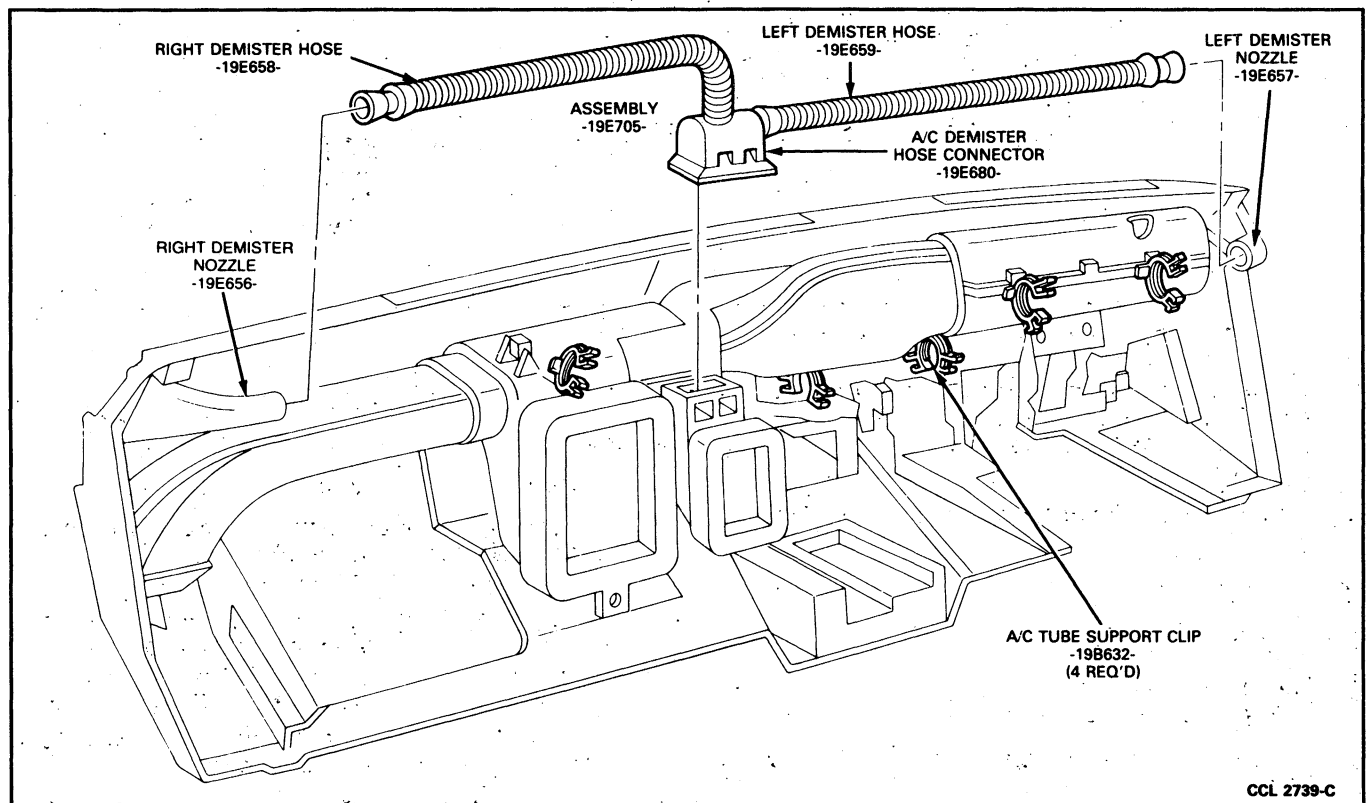

FIG. 11 Demister Nozzles and Hoses
2. Remove two nuts attaching RH and LH demister nozzles to instrument panel. They are located in opposite corners of the panel. Disconnect flexible hose which slides over the input end of each nozzle (Fig. 11).